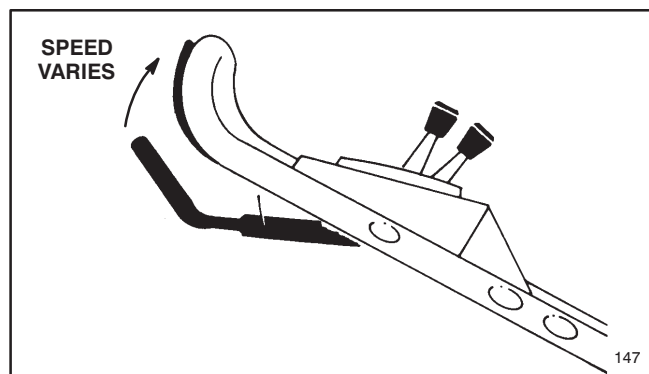

Figure 12
5. TRACTION OPERATION—Move ground speed control to desired setting and squeeze control bar against handle to drive. **Ground speed can be varied by increasing or decreasing distance between control bar and handle (Fig. 12).** Lower control bar to slow mower when making a turn, maneuvering, or if mower is moving too fast for you. If you lower control bar too far, the mower will stop self-propelling. Squeeze control bar closer to handle to increase ground speed. When control bar is tight against handle, mower will self-propel at maximum ground speed. The control bar does not have to be squeezed tight against the handle to self-propel. Move ground speed control to  when using the mower for trimming and whenever leaving mower.